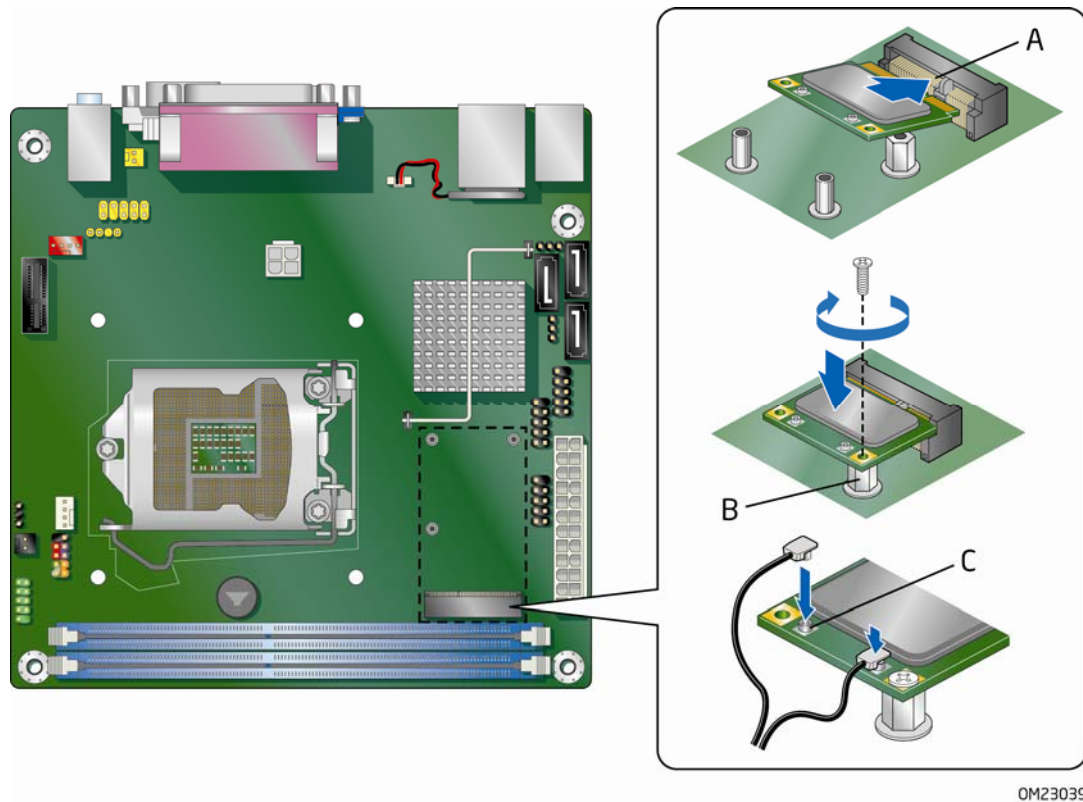

Figure 16. Installing a PCI Express Half-Mini Wireless LAN Card
To install a PCI Express Half-Mini Card wireless LAN card on the Desktop Board, see Figure 16 and follow these steps:
3. Insert the wireless LAN card into the PCI Express Mini Card connector (Figure 16, A) at a slightly upward angle.
4. Align the mounting hole with the post (Figure 16, B) and secure the card with a screw.
5. Attach your system's antenna wires to the connectors (Figure 16, C) on the wireless LAN card as shown.